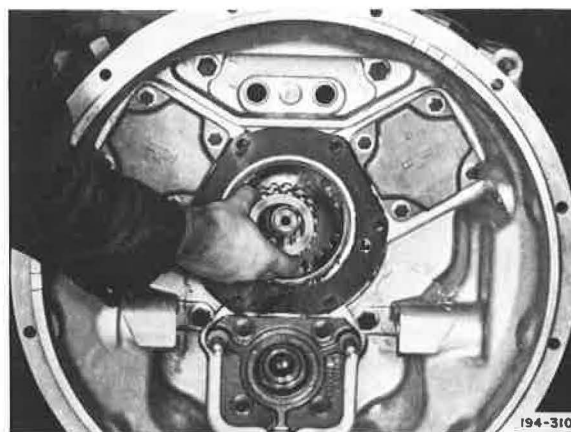

Figure 5-53. Installing Fourth/Fifth Speed Sliding Clutch
20. Install washer key in deepened spline root and slide fourth and fifth speed sliding clutch on splines, over inlaid key, and engage with fourth speed gear. See Figure 5-53.